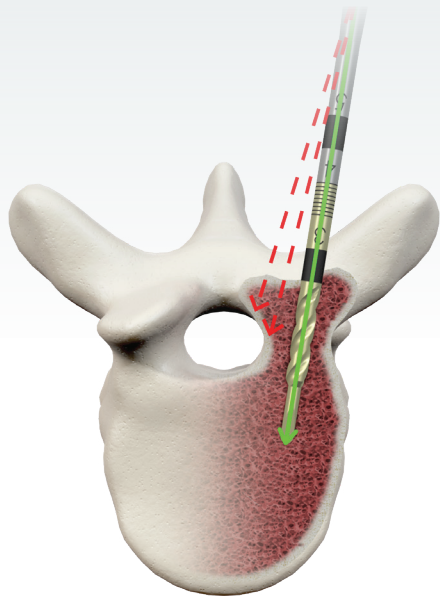

Figure 6
- As with the drill bit from the previous step, the reamer should be spun very slowly during insertion—approximately 1 to 3 rotations per second is recommended. Just as before, apply minimal force to the handpiece and reamer, when deemed necessary. In most cases, the weight of the handpiece is entirely sufficient, to ensure progression of the drill bit through the pedicle channel (**Figure 6**). By maintaining low RPM applying minimal force to the handpiece during this process, the cortical bone of the pedicle offers resistance to the blunted tip of the reamer more than cancellous bone and provides tactile feedback to the surgeon. Using this technique, the surgeon should be able to tactilely determine the path of least resistance through the pedicle's cancellous channel and establish the optimal path for pedicle screw insertion.